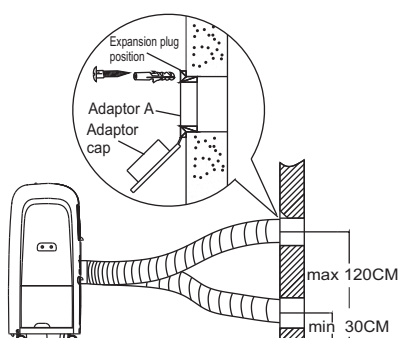

Fig.21
1. Prepare a hole in the wall. Install the wall Exhaust adaptor A onto the wall(outside) by using 4 expansion plugs and wooden screws, be sure to fix thoroughly. (See Fig.21)